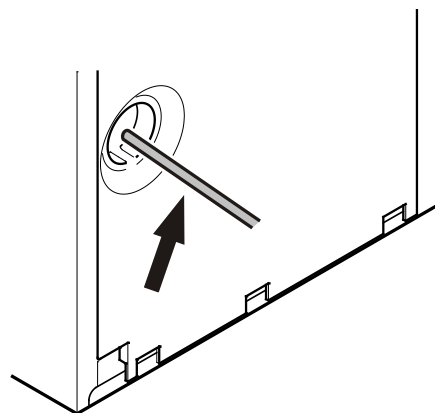

Figure 10
4. Insert the water supply line into its intended opening at the back of the appliance (**Figure 10**).